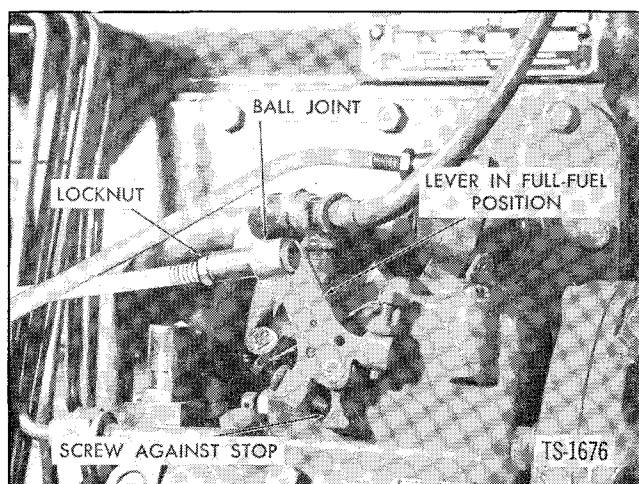

Fig. 31. Adjust Fuel Shut-Off Control (Waukesha Diesel)
2. Rotate lever to full-fuel position (screw against stop) as shown in Figure 31.